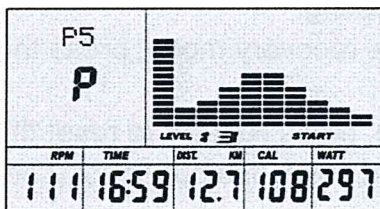

fig 29
F. Press START/ STOP to begin exercise. (See fig 29)